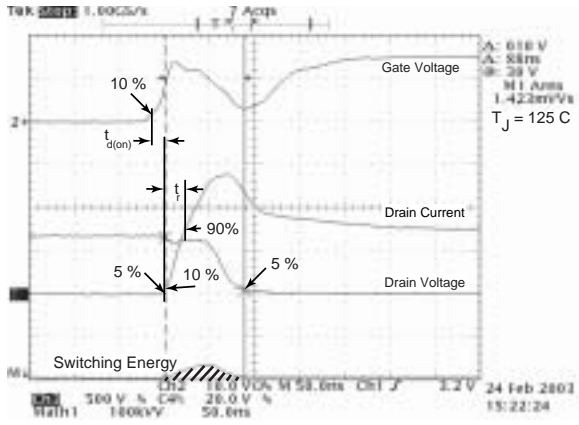

Figure 18, Turn-on Switching Waveforms and Definitions
① Repetitive Rating: Pulse width limited by maximum junction temperature
② Pulse Test: Pulse width < 380  $\mu s$ , Duty Cycle < 2%
③ See MIL-STD-750 Method 3471
④ Starting  $T_j = +25^\circ C$ ,  $L = 7.65mH$ ,  $R_G = 25\Omega$ , Peak  $I_L = 28A$
⑤  $dv/dt$  numbers reflect the limitations of the test circuit rather than the device itself.  $I_S \leq -I_D 28A$   $di/dt \leq 700A/\mu s$   $V_R \leq V_{DSS}$   $T_j \leq 150^\circ C$
⑥  $E_{on}$  includes diode reverse recovery. See figures 18, 20.